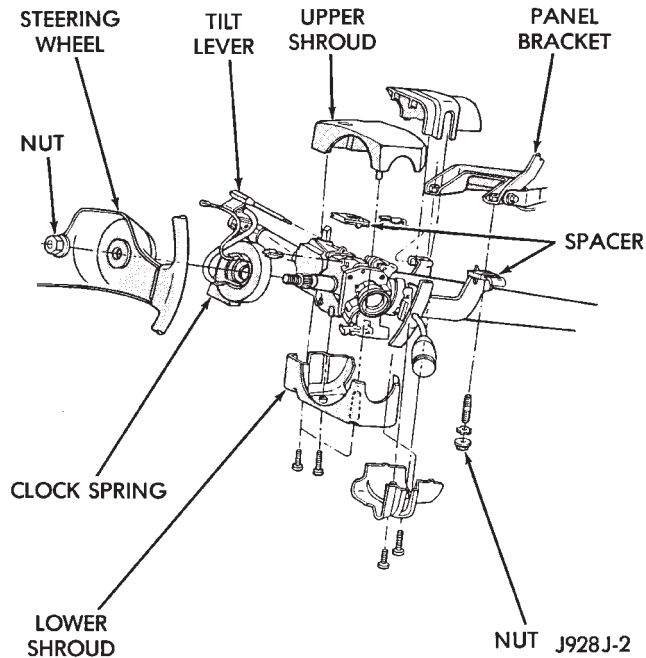

Fig. 5 Steering Column Shrouds Remove/Install
(9) Remove both the upper and lower shrouds from the steering column (Fig. 5).